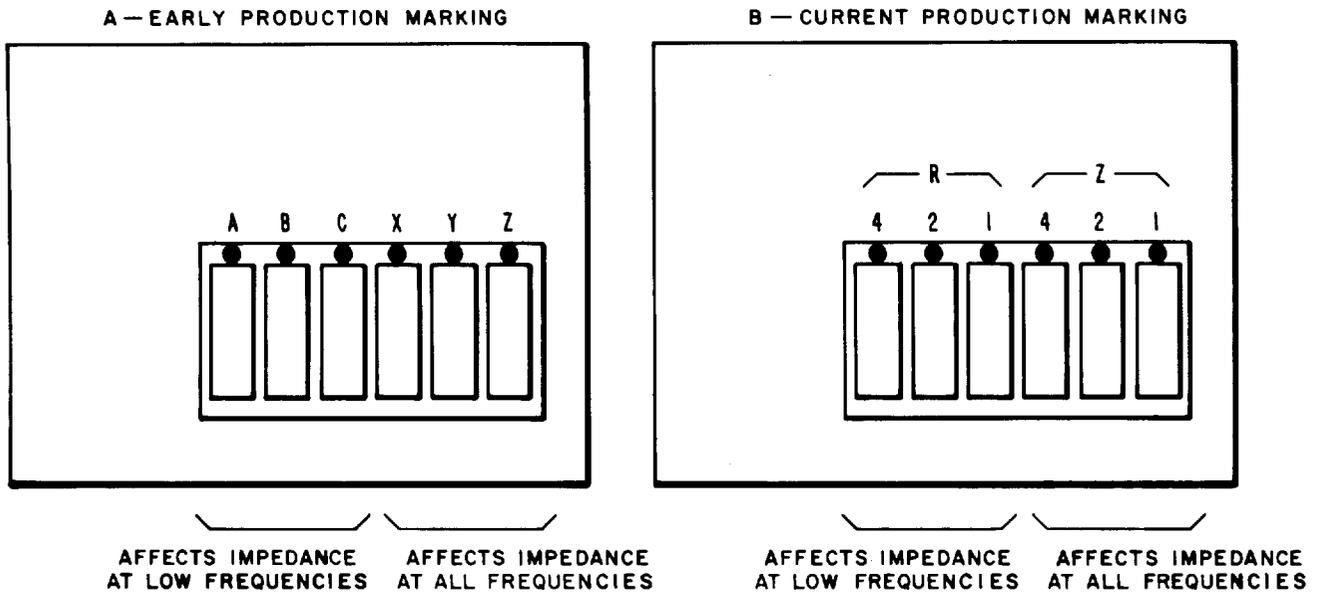

Fig. 4—Precision Balancing Network Switch Functions J99343PA
2.10 The PBN controls for the J99343PA are illustrated in Fig. 4. This figure shows the two labeling schemes for this PBN. Controls on the early production units were labeled ABC and XYZ. This has been changed to R (4, 2, 1) and Z (4, 2, 1), respectively.